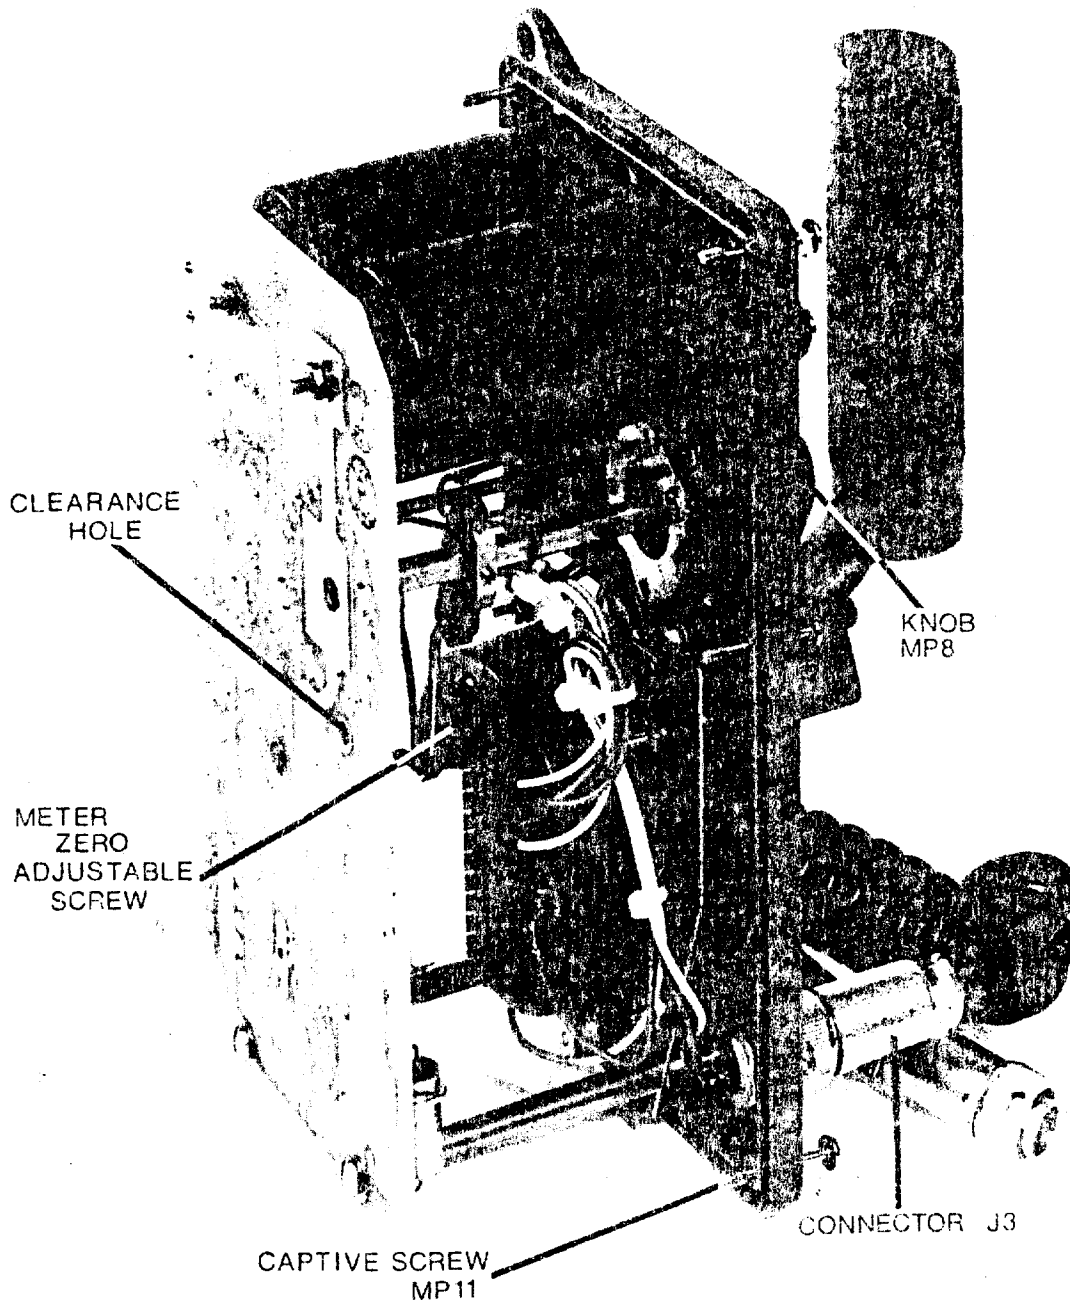

FIGURE 6-6. RADIACMETER IM-238A/PDR-27T, RIGHT SIDE
- (1) The instrument housing should be examined for any mechanical damage.
- (2) The range switch should be turned to its various positions to see that the switch knob and meter scales index properly.
(3) The meter should be examined. Observe the meter needle to see that it is not bent. Observe whether the needle is mechanically zeroed. (Meter zeroing may be accomplished by removing the radiacmeter from its housing and turning the meter zero adjusting screw located on the rear of M1. (See Figure 6-6). A clearance hole is provided in the printed circuit board for this purpose.
(4) The battery cover should be removed, and the battery contacts inspected for cleanliness. Check to insure that the batteries have been properly installed and that the battery condition (BATT on selector switch) indicates satisfactorily.
(5) The instrument housing should now be opened by loosening the six captive screws holding the housing and cover together. Visually examine the internal assembly.
(6) Turn the range switch S1 and observe the operation of the switch to see that it appears to be working satisfactorily.